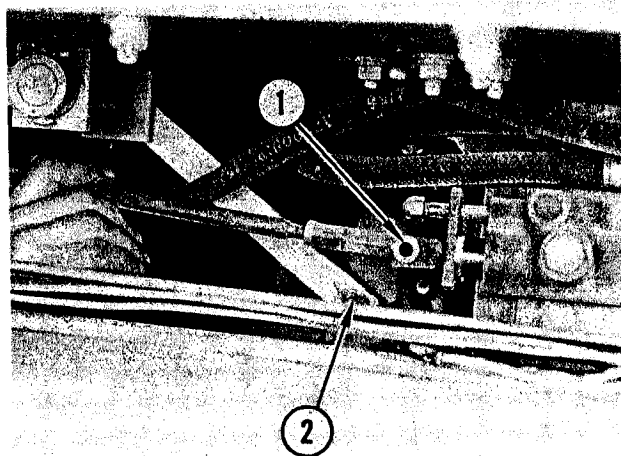

FIGURE 16. CONTROL VALVE LINKAGE
Refer to Figure 16. Remove connecting bolt (1) from power-shift clutch control valve